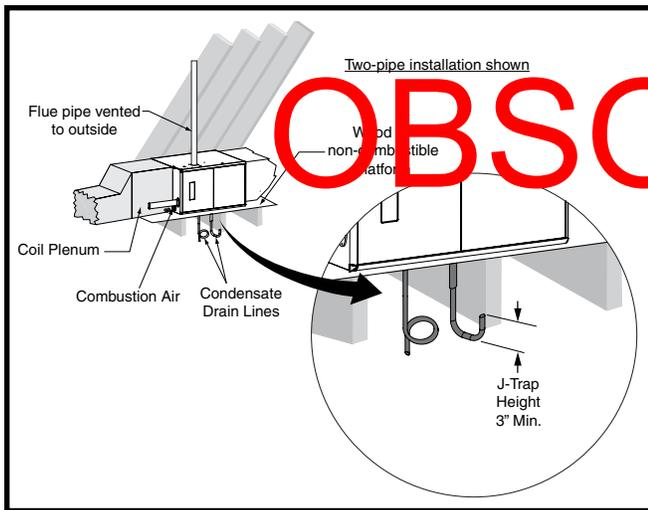
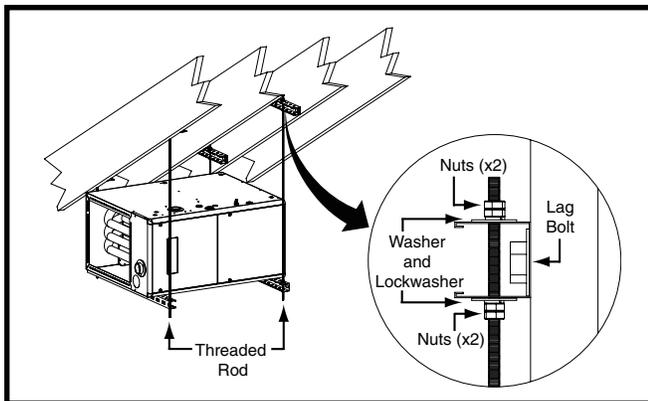

Figure 11. *SC & *SD Horizontal installation on a Platform
Figure 12. *SC & *SD Horizontally Suspended in an Attic
*SC & *SD series gas furnaces can be installed horizontally (Figure 11) in an attic, basement, crawl space or alcove. It can also be suspended from a ceiling in a basement or utility room in either a right to left airflow or left to right airflow as shown in Figure 12 \(page 15\).
If installing the furnace with an evaporator coil (in an attic), it is required that a drip pan be placed under the furnace. If the installation is on a combustible platform as shown in Figure 11, it is recommended that the drip pan extend at least 12 inches past the top and front of the furnace.
If suspending the furnace from the ceiling, assemble a support frame (Figure 12) using slotted iron channel and full threaded rod. Fasten the frame together with nuts, washers, and lockwashers. Secure the support frame to the rafters with lag bolts. The furnace can also be suspended using steel straps around each end of the furnace. The straps should be attached to the furnace with sheet metal screws and to the rafters with bolts.